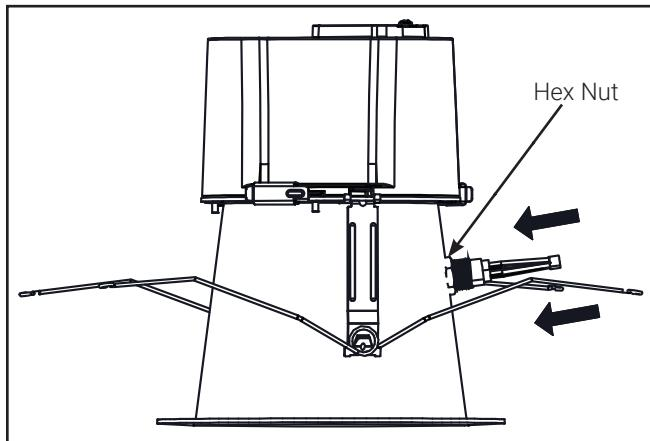

Figure 5.
3. Tighten the hex nut as shown in (Figure 5).